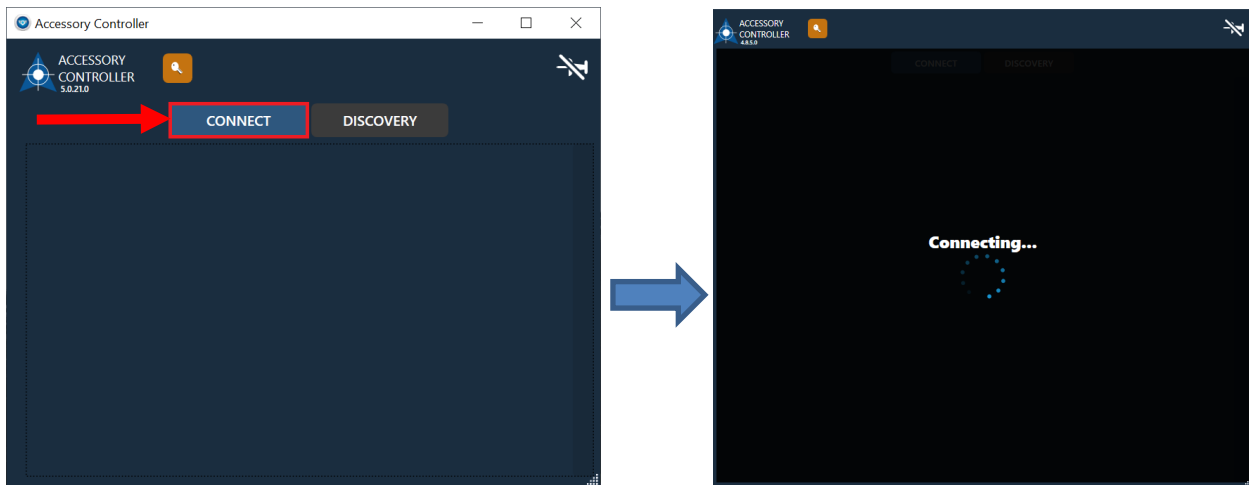

Fig. 5
b. Click "CONNECT" to start Accessory Control as shown below (Fig. 5).